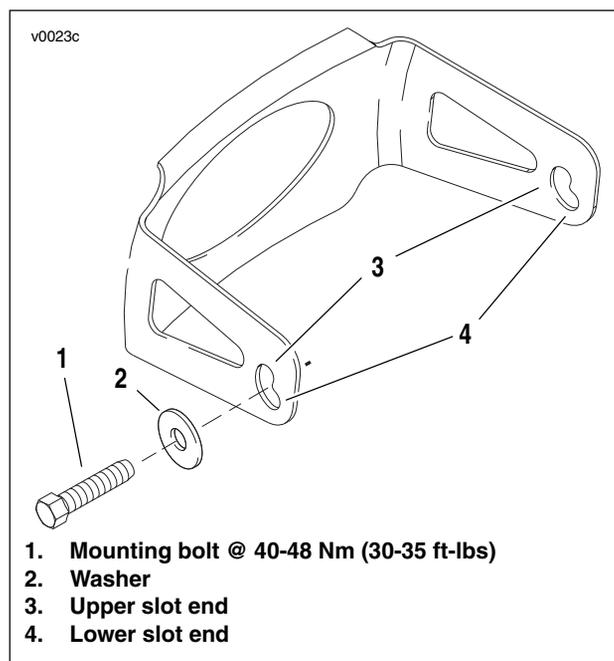

Figure 4-6. Fuel Tank Mounting Bracket
2. See Figure 4-6. Loosely thread in the two mounting bolts (1) and washers (2) through the forward lower slot ends (4) of the bracket into the threaded boss on the frame.
3. Evenly press forward and downward on the bracket against the fuel tank until the mounting bolts slide back and up into the upper slot ends (3).